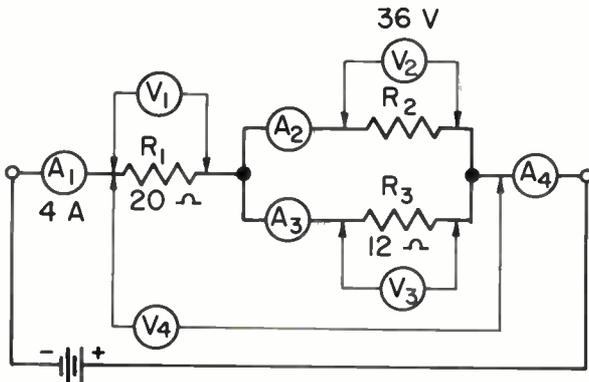

Fig. 19
5. Figure 19 shows a series-parallel circuit with ammeters and voltmeters connected to measure current and voltage in various parts of the circuit. Voltmeter V_2 reads 36 V, and ammeter A_1 reads 4 A. What does ammeter A_4 read?
26 6. What does voltmeter V_3 in Fig. 19 read?
(1) 18 V (2) 36 V (3) 48 V (4) 72 V
(5) Can't be determined based on information given
7. What does ammeter A_3 in Fig. 19 read?